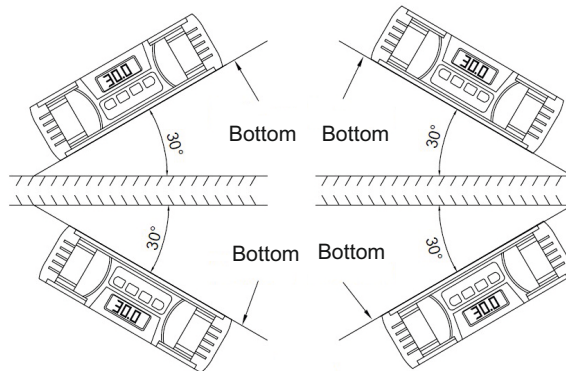

Fig.6
- » If you turn the device upside down, the display will automatically flip over (Fig. 6).